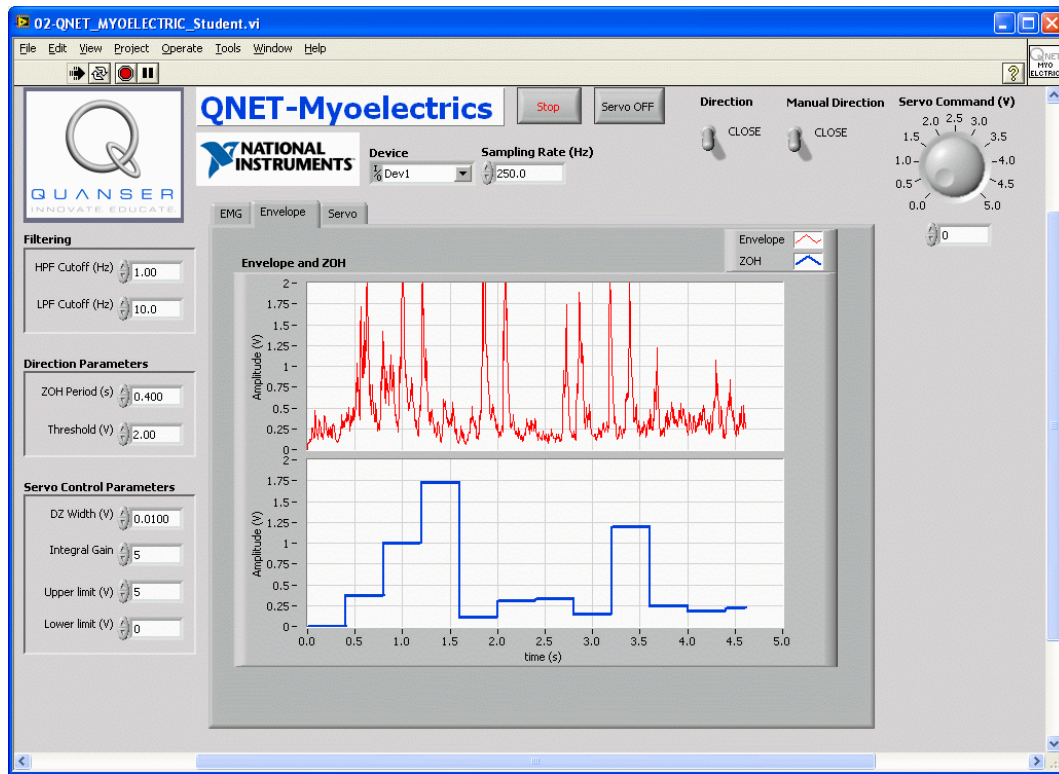
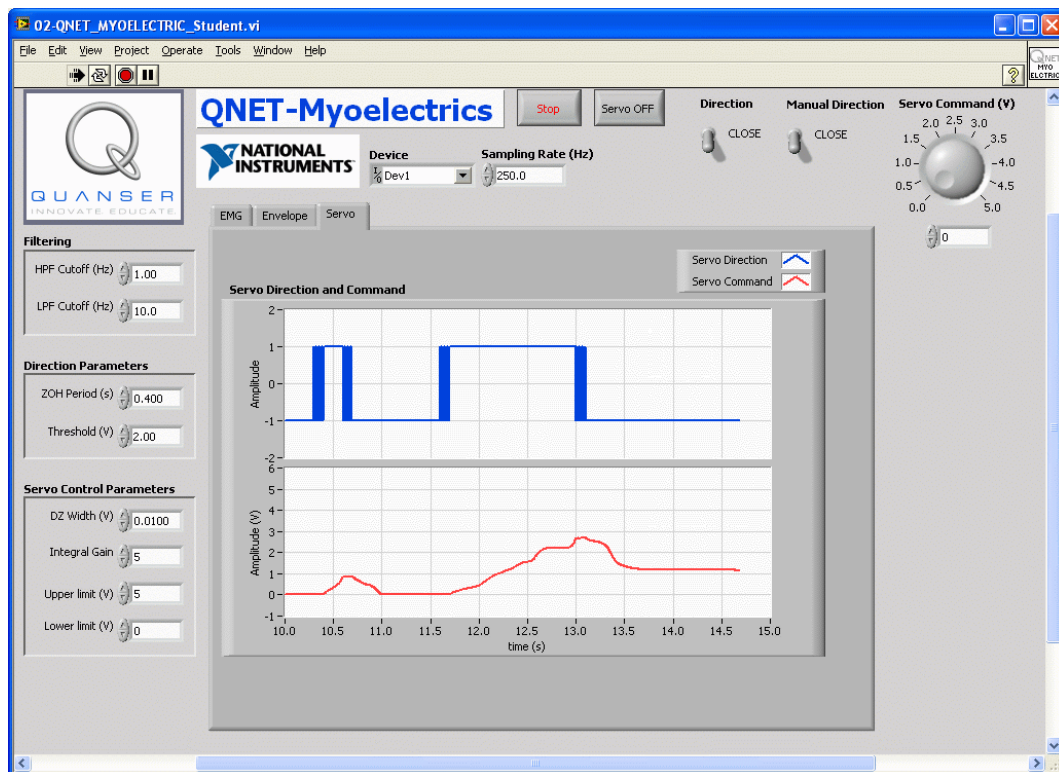

Figure 1.3: QNET Myoelectric VI: Configure the ZOH
Figure 1.4: QNET Myoelectric VI: Servo tab
The virtual instrument used to configure the ZOH, and control the servo position is shown in Figure 1.3 and Figure 1.4.
4. Select the Envelope tab. As illustrated Figure 1.3, the bottom plot shows the zero-order hold (ZOH) of the envelope.